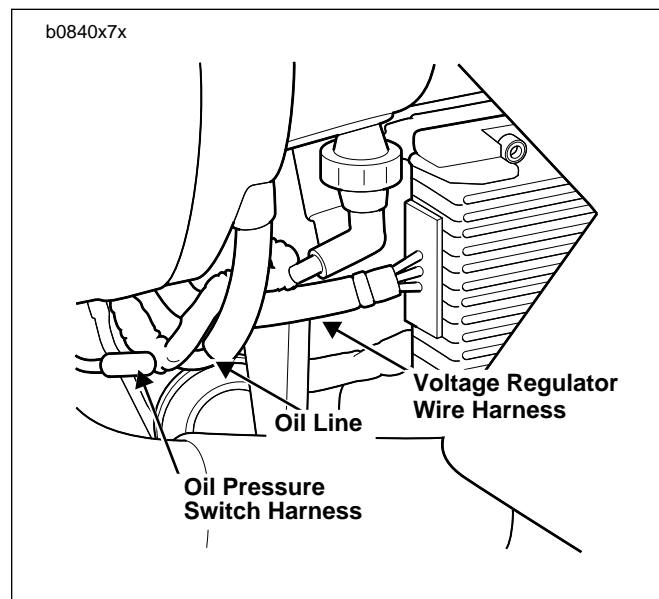

Figure 7. Voltage Regulator Wire Harness Routing
- b. See Figure 7. Route voltage regulator wire harness between shock mounting bracket and oil line.